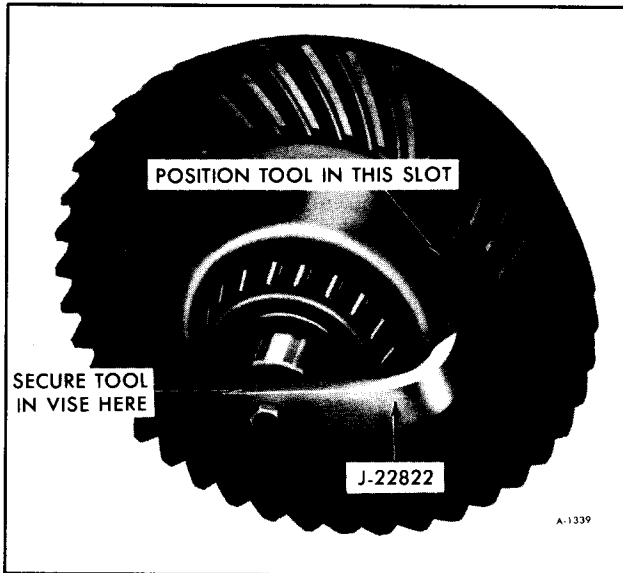

Figure 51—Installing Tool J-22822
2. Install Tool J-22822 into a vise and place case assembly over tool as shown in Figure 51. Install **NEW** ring gear attaching bolts in remaining holes and then remove three 7/16-20 x 1-3/4 in. bolts. Install remaining three **NEW** bolts into ring gear and torque bolts alternately in progressive stages to 85 ft. lbs.